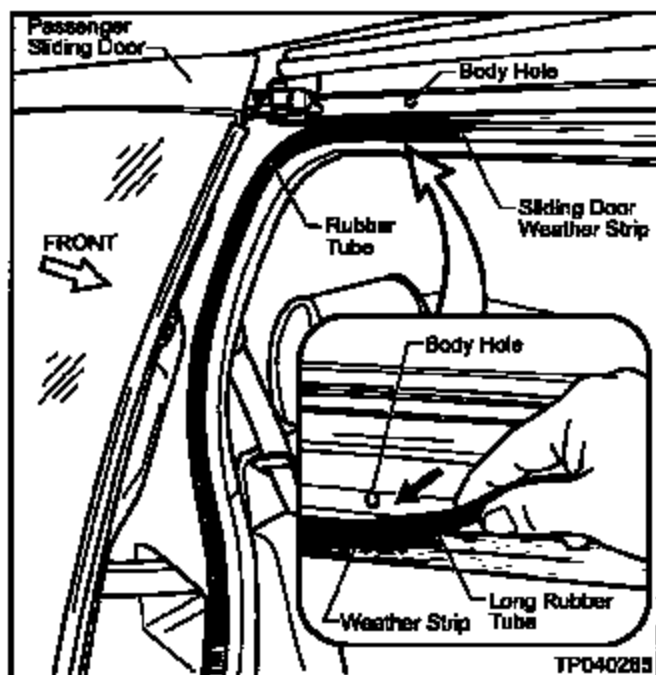

Figure J9
12. Insert the end of the tube through the cut hole and into the Weather-strip as shown in Figure J9.